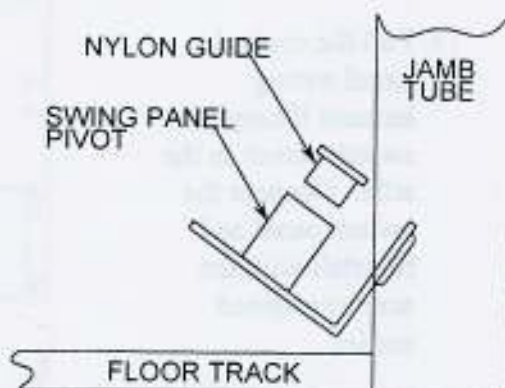

Figure 11
2. Install the pivot into the jamb by rotating it into the cutout in the jamb and fastening it with a 1/4 - 20 x 3/4 inch screw (See Figure 11).